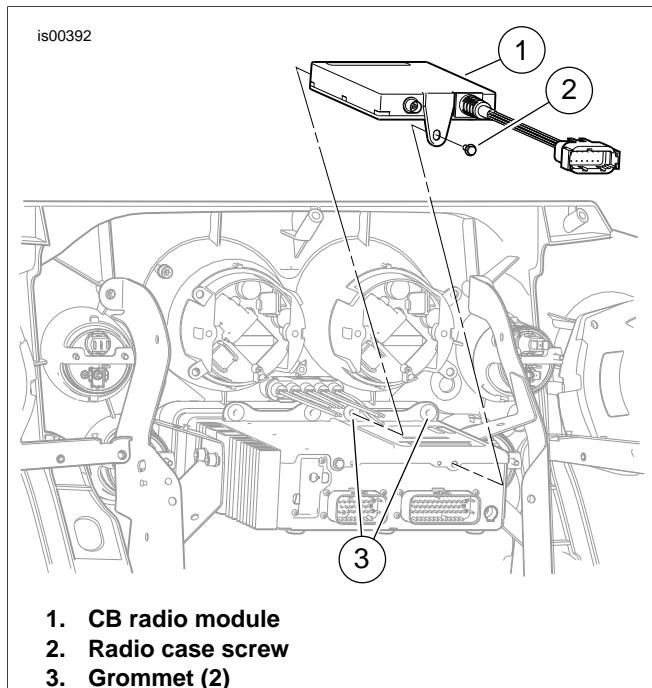

Figure 1. CB Radio Module Installation
3. See Figure 1. Locate the CB radio module (1) on top of the AM-FM radio case:
- a. Remove the screw (2) at the back of the radio.
- b. Position the CB radio module on top of the AM-FM radio, with the metal cones on one end of the module fitting firmly into the rightmost rubber grommets (3) at the front of the radio.
- c. Fasten the module to the radio with the radio case screw (2). Tighten to 35-45 in-lbs (4.0-5.1 Nm).